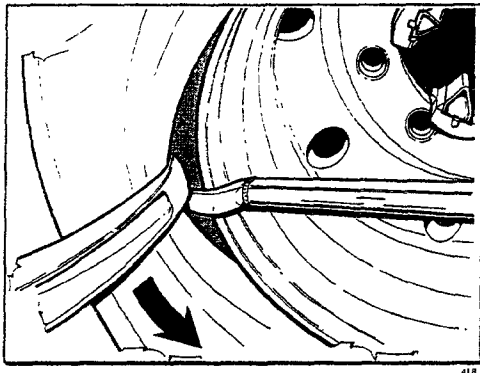

Fig.30
3. Lift the chuck arm enough to clear the hook 2-3 cm (1"-1 1/2") from the rim flange. Move the mount/demount tool towards the outside. This will allow you to place the long bar in between the bead and the rim flange for necessary prying (Fig.30).